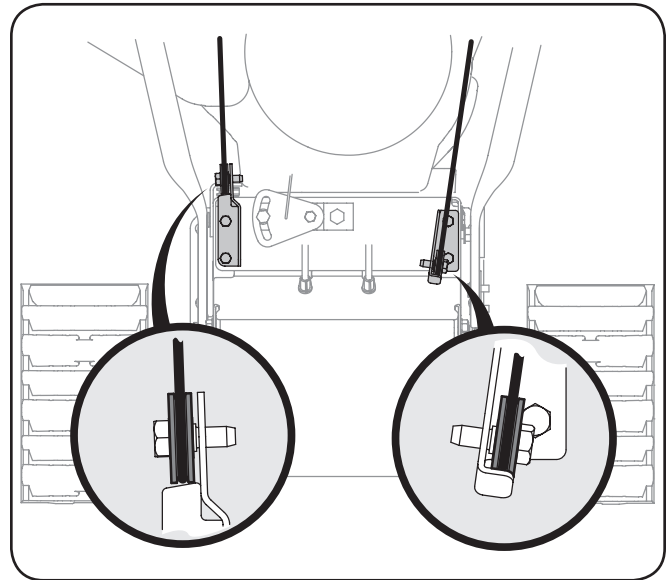

Figure 3-2
**NOTE:** Make certain the upper ends of each cable are seated properly in the proper brackets. See Figure 3-2.